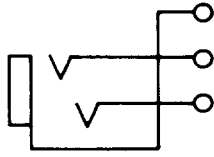

Fig. 26—544A Jack
2.22 544A: (AT&T Special) The 544A is a single-mounted jack (Fig. 26) designed for the 310 or similar-type plugs, and mounted with the springs in a vertical plane. This jack is provided with a feature for minimizing the possibility of shorting the tip and ring springs when a plug is inserted. The 238-type jacks are recommended for general use. The 544A jack is used in the J1G000 Digital Data System.